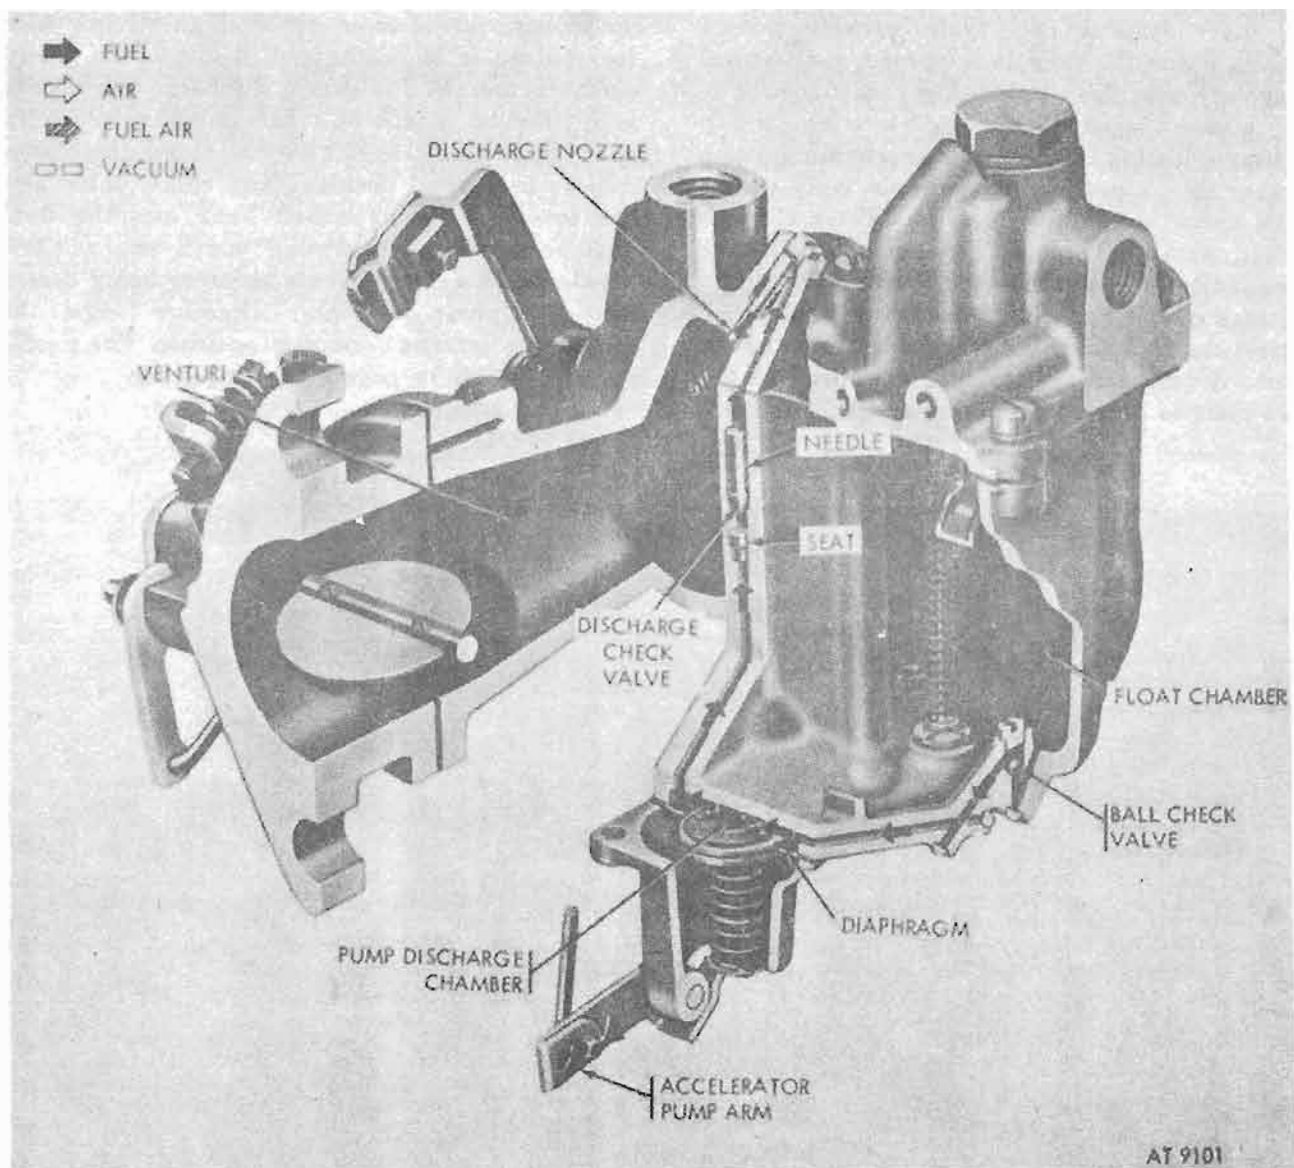

Figure 5-5. Accelerating pump system.
e. Accelerating Pump System (fig. 5-5). Purpose of the accelerating pump system is to supply extra fuel necessary to maintain proper fuel-air mixture when the engine is accelerated. Air flow responds immediately to a suddenly opened throttle, but gasoline, being heavier than air, is slower to move. The accelerating pump system operates during this time lag to supply extra fuel